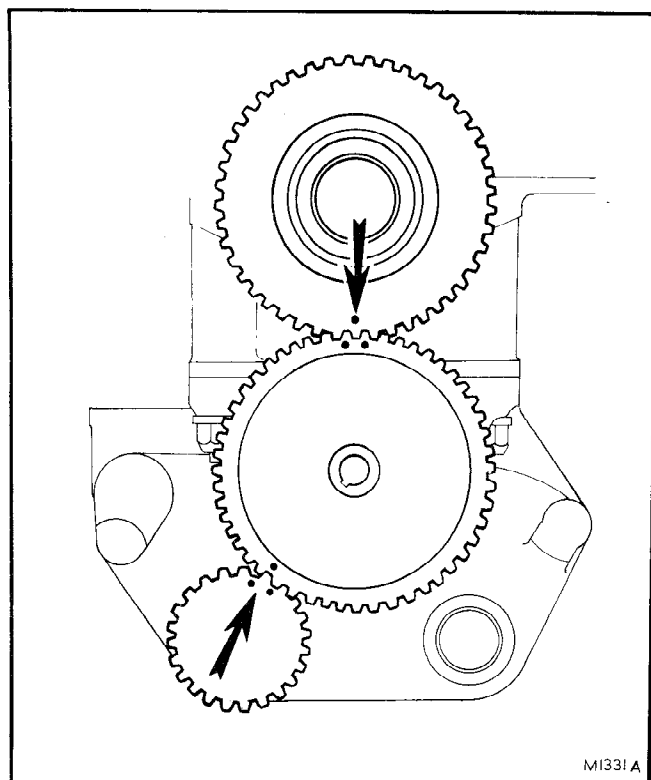

Fig. 5
- g. Ensure that the oil pump gear is correctly aligned to the crankshaft and balancer gears, as shown in Fig. 5.